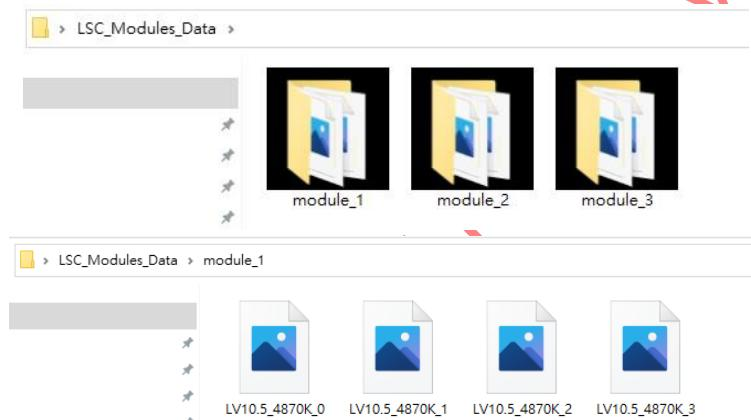

Fig 4.5 (top) creates root folders for each module, (bottom) put raw images captured by each module with index suffix naming.
Step 3. Create a root folder, and sub-folders containing 4 raw images of each module. The naming rules of each raw image should include the index suffix. (Fig 4.5)